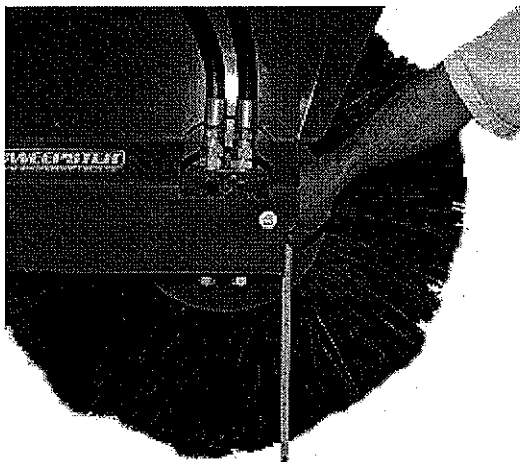

figure 17
4. Swing the sweeper to the right; stop the tractor. Then, on both sides of the sweeper measure from the ground to the bottom of the brush frame (figure 17).